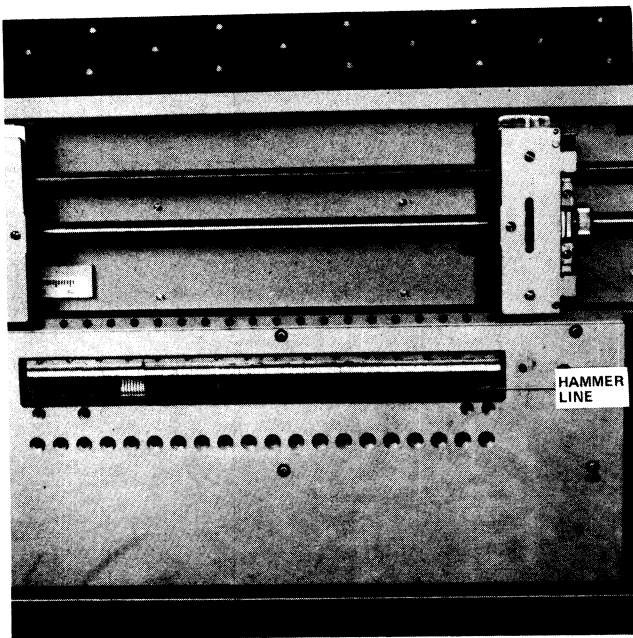

Figure 3-29. Print Hammers
- o Hammer line print block (Figure 3-29)